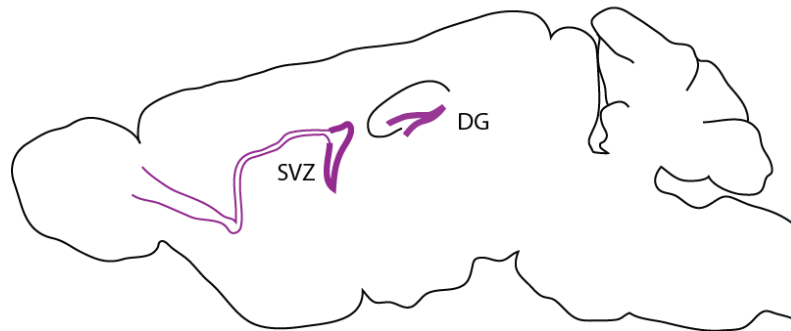

Figure 1. Overview of neurogenic niches in coronal and sagittal brain sections (SVZ: subventricular zone; DG: dentate gyrus)
- a. For coronal vibratome sections (see Figure 1), the cerebellum is cut, removed and the brain glued upright with the cutting site using superglue onto the holder plate of the vibratome. Coronal sections may have a thickness of 50 µm or 100 µm.
- b. For sagittal sections (see Figure 1) brains are embedded in 2% agarose in PBS. The brain is then glued in a solid gel block on the lateral side to the holder plate. Sagittal sections are cut 100 µm thick. Agarose can be removed from the slices during cutting or may be kept during the staining process in order to stabilize the tissue (especially olfactory bulbs).